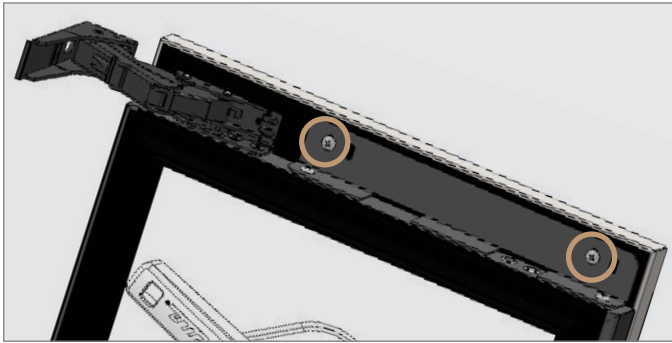

FIG. 1. Spacer / top door bracket screw locations.
2. Loosen the door skin bracket and spacer screws. See figs. 1–3.